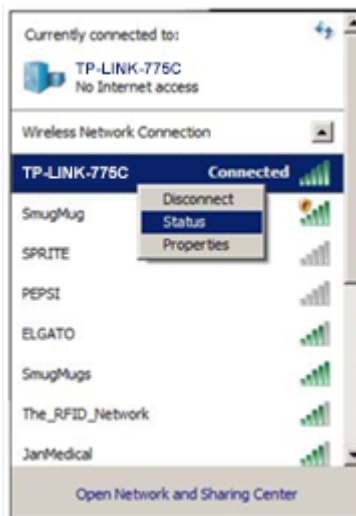

Figure 74: Current Connectivity Screen
- b. Click **Status**. (Figure 74)